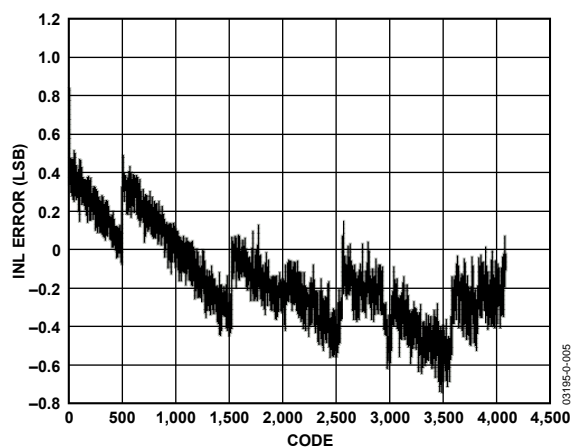

Figure 4. Typical INL Plot
Relative accuracy or integral nonlinearity (INL) is a measure of the maximum deviation, in least significant bits (LSBs), from an ideal line passing through the endpoints of the DAC transfer function. Figure 4 shows a typical INL vs. code plot. The ADN8810 INL is measured from 2% to 100% of the full-scale (FS) output.